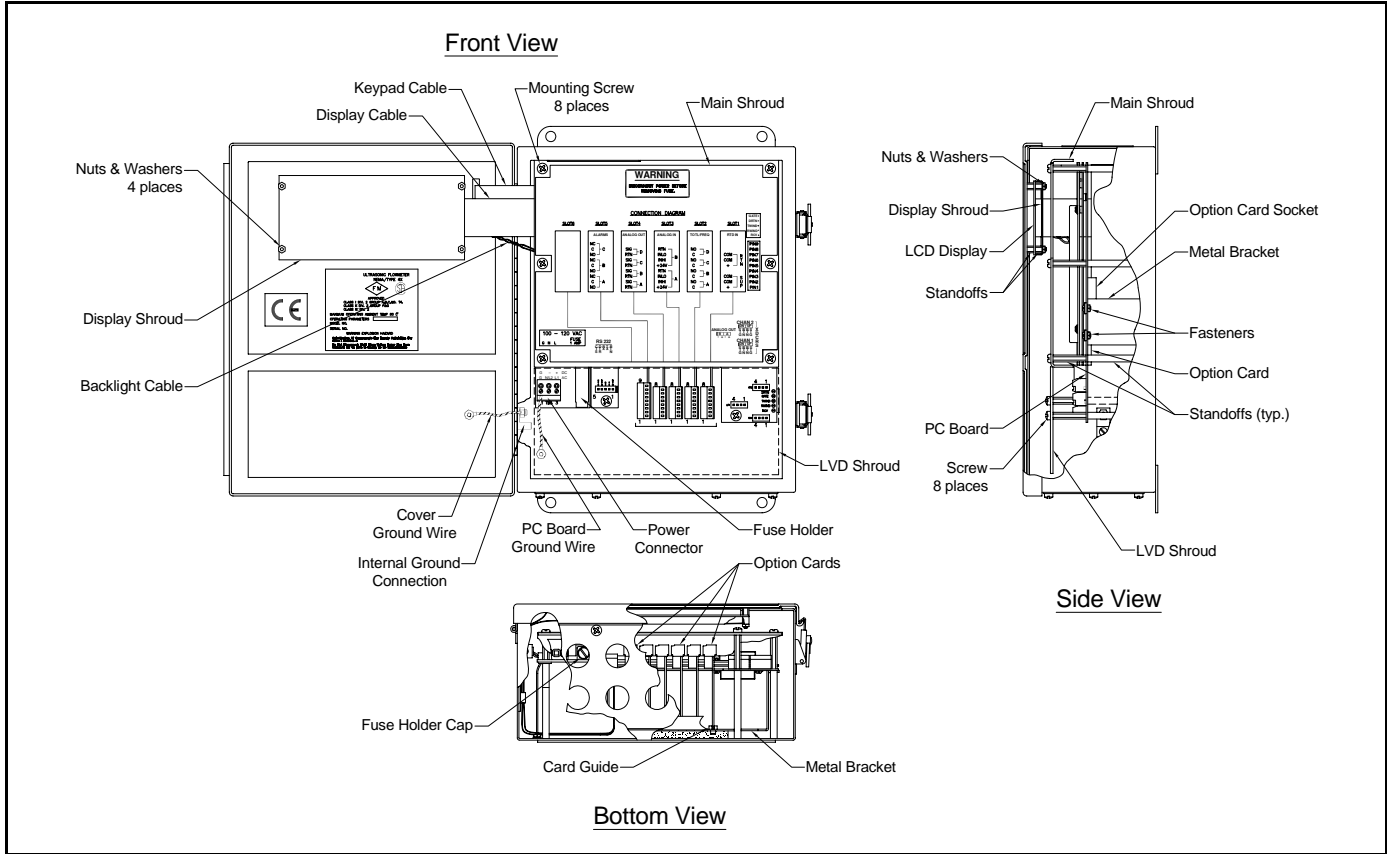
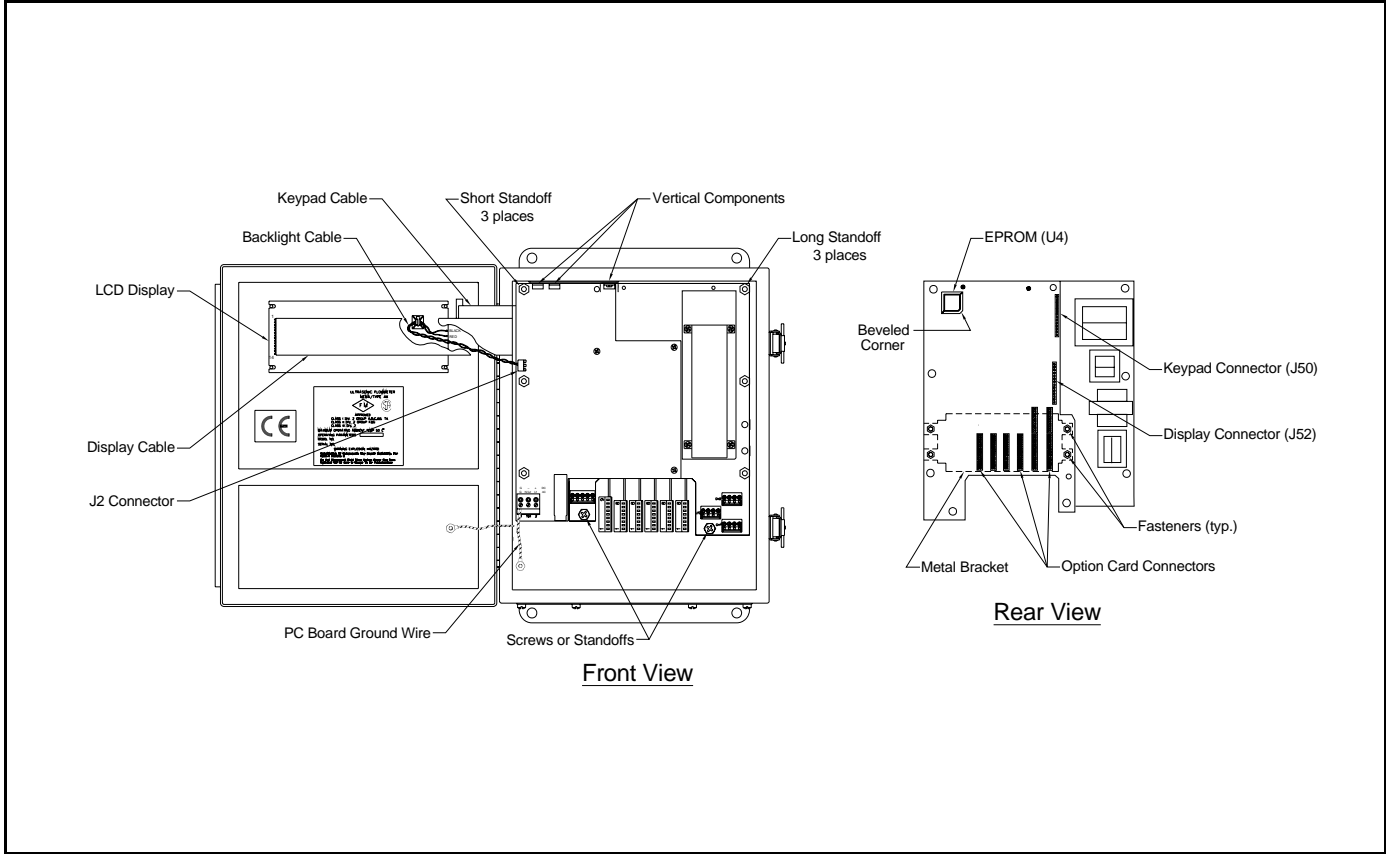

Figure 4-1. Standard Model GC868 - Electronics Console Assembly
Figure 4-2: Standard Model GC668 - Printed Circuit Board Assembly
The Model GC868's *User Program* is stored on an erasable programmable read only memory (EPROM) chip. The EPROM, designated as component U4, is located in the top left corner of the bottom of the printed circuit board. See Figure 4-2 on page 4-11 for a rear view of the printed circuit board. EPROM replacement may be required to replace a defective chip or to upgrade to a newer software version. To replace the EPROM, complete the following steps:
To install an option card, refer to Figure 4-2 on page 4-11 and complete the following steps:
5. Place the metal bracket over the option cards, making sure that all option cards are aligned with the plastic card guides in the bracket. Secure the metal bracket to the printed circuit board with the snap rivets provided. See Figure 4-1 on page 4-10 for the installed assembly.
The Model GC868's measurements are displayed on a two-pane LCD graphic display panel. The LCD display normally provides years of dependable service, but it is easily field-replaceable when necessary. To replace the LCD display, see Figure 4-1 on page 4-10 for the component locations, and complete the following steps:
4. Place the new LCD display assembly over the mounting studs on the console cover and fasten it in place with the four standoffs. Make sure that the LCD display assembly is oriented as shown in Figure 4-2 on page 4-11.
Whether the printed circuit board was removed for replacement or for one of the other procedures discussed in this chapter, reinstallation of the printed circuit board is the final step in the process. Refer to Figure 4-1 on page 4-10 and complete the following steps:
During this procedure, be very careful not to damage the vertical components along the top edge of the printed circuit board (see Figure 4-2 on page 4-11). Severe or repeated bending of these components will break their leads.
1. Position the printed circuit board within the electronics console with the top edge tilted forward. Insert the display ribbon cable and keypad ribbon cable connectors into their sockets on the rear of the printed circuit board. See Figure 4-1 on page 4-10 and Figure 4-2 on page 4-11 to identify the cables and sockets. Note that the keypad cable connects to the upper socket and the display cable connects to the lower socket.